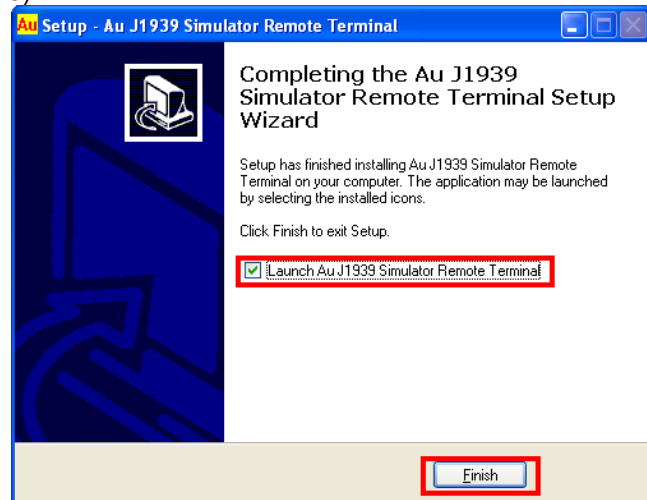

Figure A-9
9. Check "launch Au J1939 Simulator Remote Terminal", click "Finish" (Figure A-9)